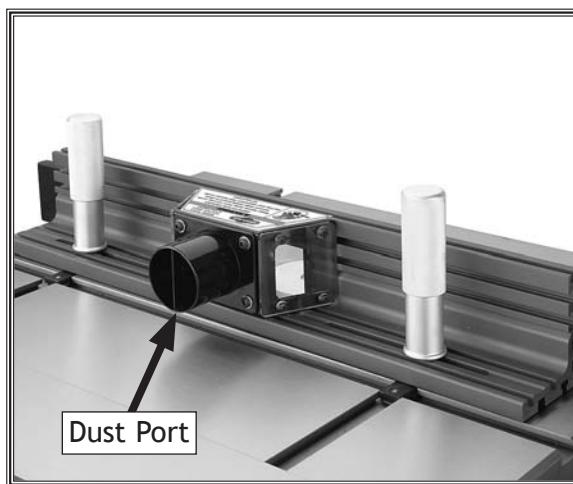

**Figure 13.** Shim installation for full edge routing.
**Note:** The two fence board shims provided with your router table can be placed between the outfeed fence board (left) and the fence to offset the outfeed fence board for full edge routing (see the illustration in **Figure 13** and refer to **Edge Routing** on **Page 15** for additional details).